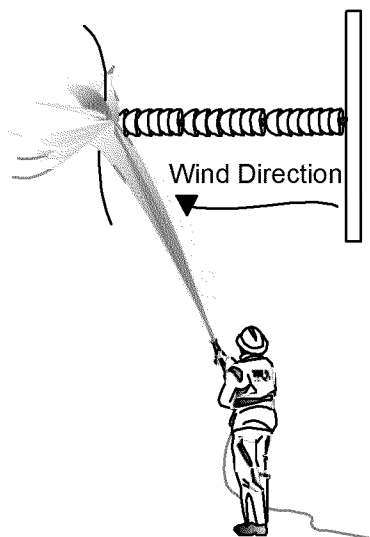

Figure 5-16
- C. In Figure 5-16 below, the nozzle operator starts at the conductor end of the insulator and works back toward the structure. The wind is blowing right to left so the overspray will not fall on the unwashed section of the insulator.